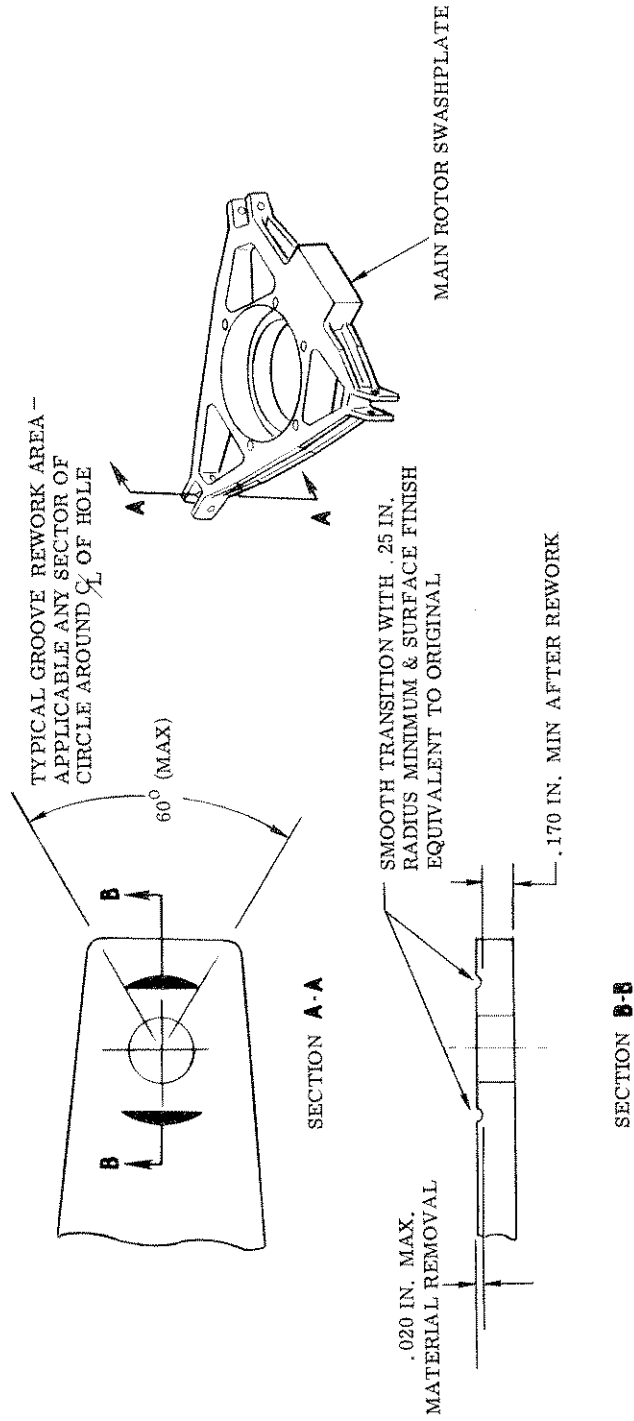

FIGURE 2. MAIN ROTOR SWASHPLATE-REWORK, PITCH LUGS
f. Inspect upper swashplate for condition and evidence of wear on inner faces of lugs; rework grooves exceeding 0.003" depth on inner faces of lugs; touch up after rework with zinc chromate primer. (See Figure 2)